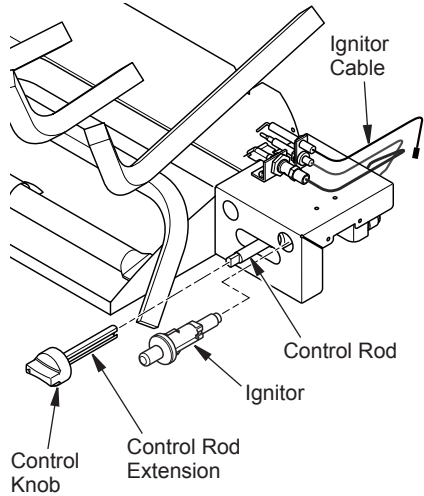

Figure 5
8. Install the control knob to the control rod extension. Push the control rod extension onto the "D" shaped control rod through the center hole in the cover as shown in Figure 5.